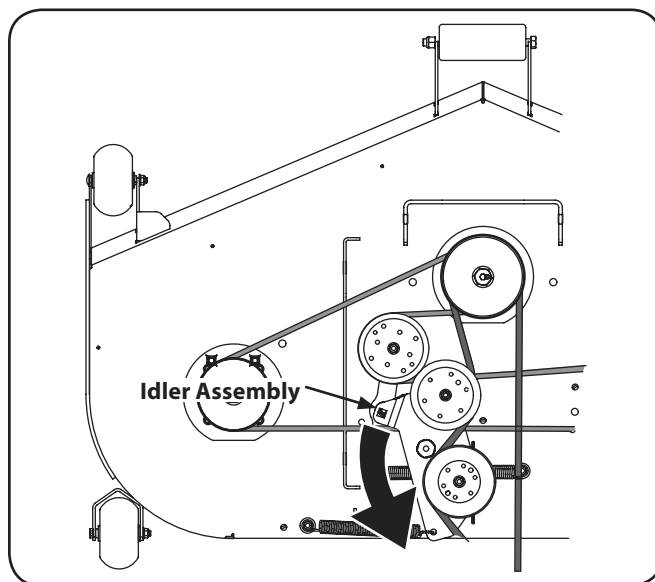
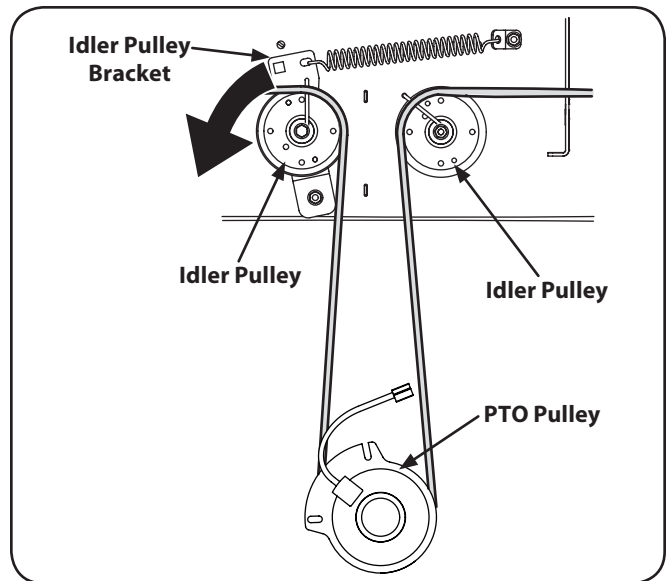

Figure 7-4
Figure 7-5
4. Using a ½" drive in the idler assembly turn the wrench towards the back of the tractor and slide the belt off the PTO pulley. See Fig. 7-4 for the Z-Force S60 and Fig. 7-5 for the Z-Force S48.